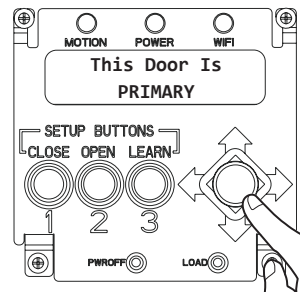

Figure 15
- **This Door Is** = PRIMARY (Figure 15)